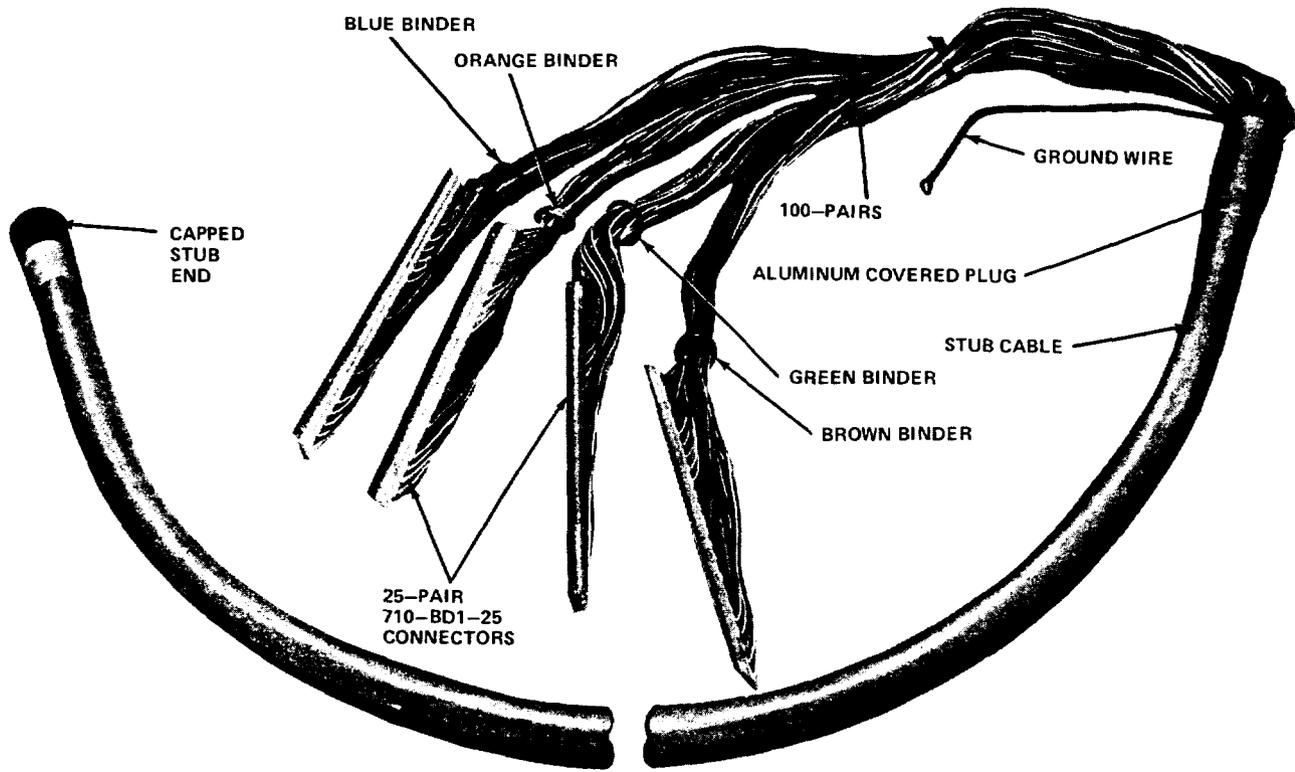

Figure 13. 11-Type Connectorized Stub Cable
5.06 Stub cables (Figures 13 and 14) are used with 307-type connectors to interconnect to outside plant cables and must be ordered separately (with the exception of the 307L2D-100 UL connector, which is factory-wired with a 26-gauge (.4 mm) stub cable). These stubs have 22- or 24-gauge (.6 or .5 mm) copper conductors and are insulated with color-coded polyvinyl chloride (PVC). One end of the stub is terminated with 25-pair 710-BD1-25 bridging modules. The cable contains a mylar tape wrap, a corrugated aluminum shield, an outer PVC sheath, and an aluminum-covered moisture plug at the connectorized end of the stub cable. This cable is UL-Listed type "CMR," suitable for riser applications. Both the 22- and 24-gauge (.6 and .5 mm) stub cables have a nonflammable light olive-gray sheath. The 22-gauge (.6 mm) stub cable can be identified by a red binder around the core wrapper; the 24-gauge (.5 mm) cable has a white binder. Figure 13 shows the 11-type stub cable and Tables F and G provide selection and ordering information.